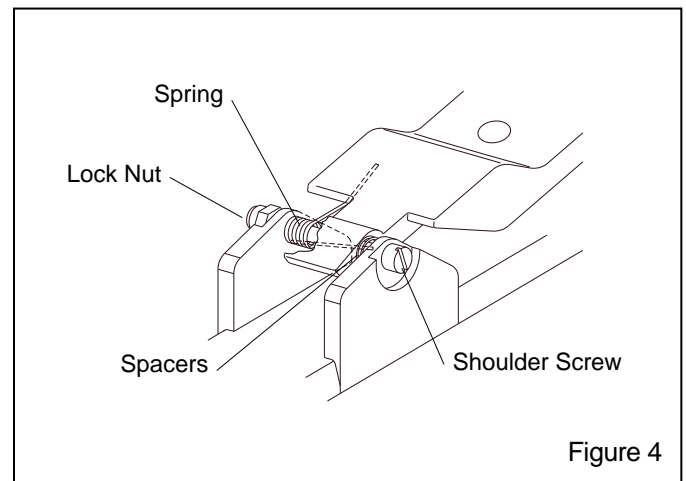

Figure 4
4.5 Handle Lever Replacement, Figure 4
4.5.1 Remove the lock nut from the shoulder screw. Before removing the screw, note the positions of the spacers and spring as shown in Figure 4. The bent end of the spring is against the handle lever and facing up. The straight end is against the body and facing down. The spring and spacers must be placed correctly when reinstalling the handle.